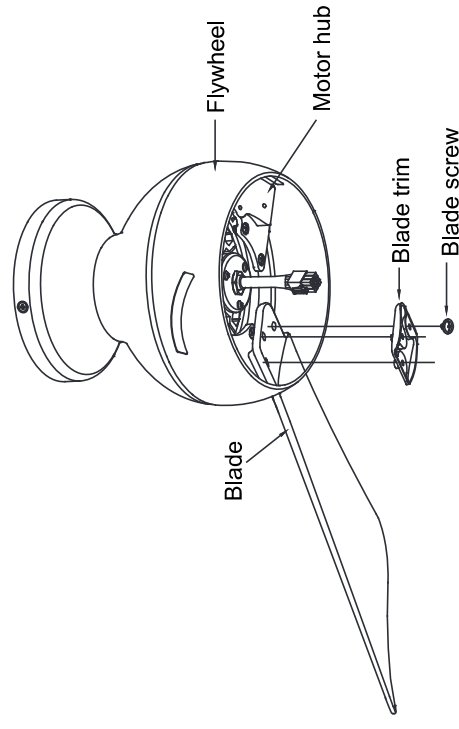

Fig. 12
Step 2. Insert the blade through the slots on the flywheel and attach to the motor hub using the blade screws and blade trim. Make sure the screws securing the blades to the motor hub are tightened and are properly seated (**Fig. 12**).